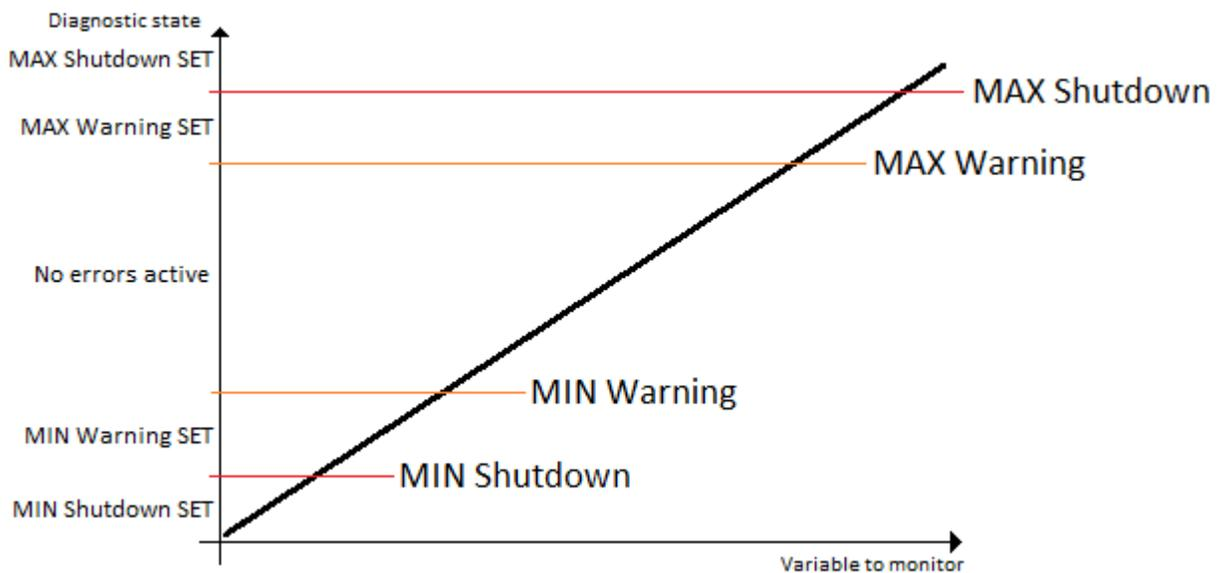

Figure 4 – Double Minimum and Maximum Error Thresholds
**Double minimum and maximum error** lets user to specify four thresholds, each with independent diagnostic parameters. The diagnostic status and threshold values is determined and expected as show in Figure 4 below.